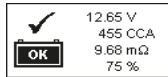

Fig.65
2. Press  key will allow the test results to be displayed as example shown (Fig.65).